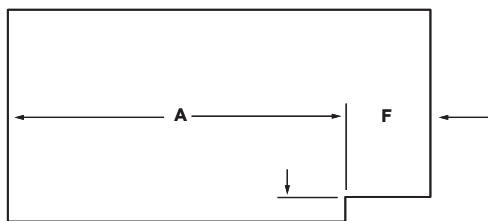

Figure 5a
3. Prepare a 1/2" plywood shim per dimensions **A**, **F**, and **D** below in **Figure 5a**. Install the shim on top of the subtread between the 8010-2 tread and the closed side finished skirtboard. The shim will run beneath the false tread on the closed side of the stair.